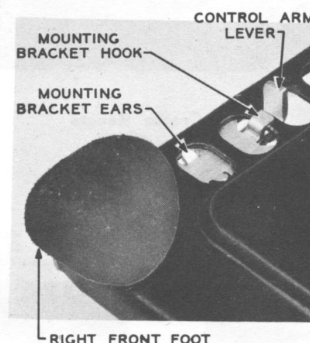

Fig. 2—Mounting Bracket
2.04 The ringer volume is controlled by the volume control arm lever which protrudes through a ringer port in the base of the set. The left ringer gong is mounted on the gong end of the control arm and may be moved to three positions: low, medium, and high, by the operation of the volume control lever (see Fig. 2).